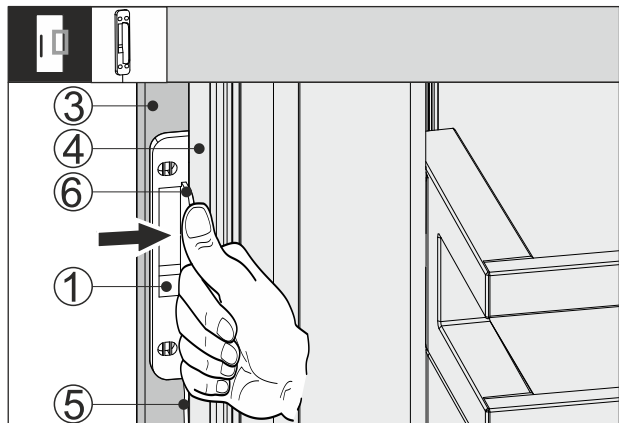

Fig. 66
- ▶ Push the knocking sensor Fig. 66 (1) between the unit front Fig. 66 (3) and the appliance door Fig. 66 (4) so that the cable Fig. 66 (5) is tensioned slightly. The knocking sensor's limit stop Fig. 66 (6) is touching the appliance door Fig. 66 (4).
- ▶ Press the knocking sensor Fig. 66 (1) to the unit front Fig. 66 (3).
- ▶ The knocking sensor Fig. 66 (1) is glued on. Gluing the knocking sensor on optimises transmission of the knocking signal.
Attaching the knocking sensor Fig. 66 (1) permanently extends the service life.
- ▶ Use the enclosed screws to screw the knocking sensor Fig. 66 (1) onto the unit front Fig. 66 (3).